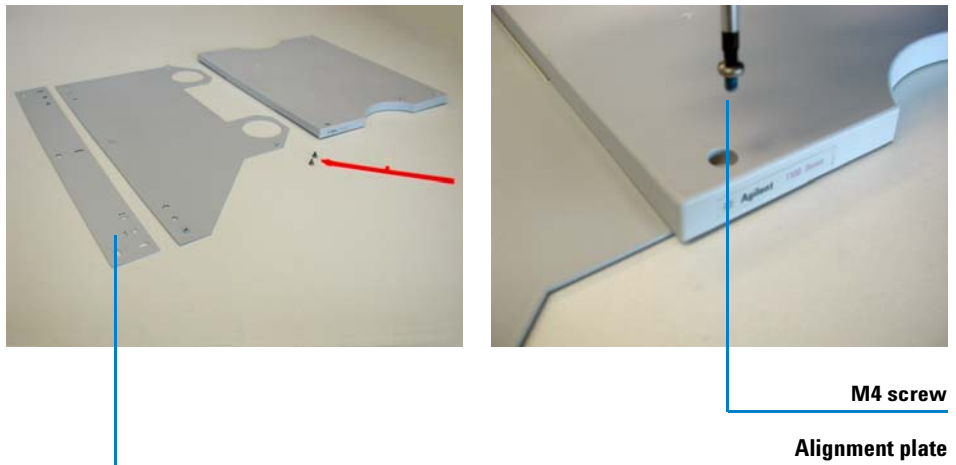

Figure 12 Assembling the alignment plate assembly
- 13** Assemble the alignment plate assembly. Use the two M4 screws from the G2254A Automation Interface package to screw the sheet metal part with two big holes together with the plastic part (see Figure 12).